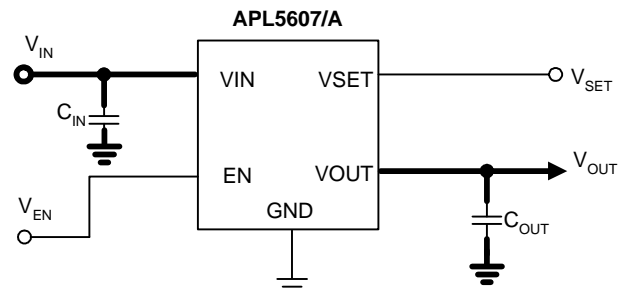

Figure 1
Figure 1 illustrates the layout. Below is a checklist for your layout:
4. Large current paths, the bold lines in figure 1, must have wide tracks. 40mil layout trace is recommended.